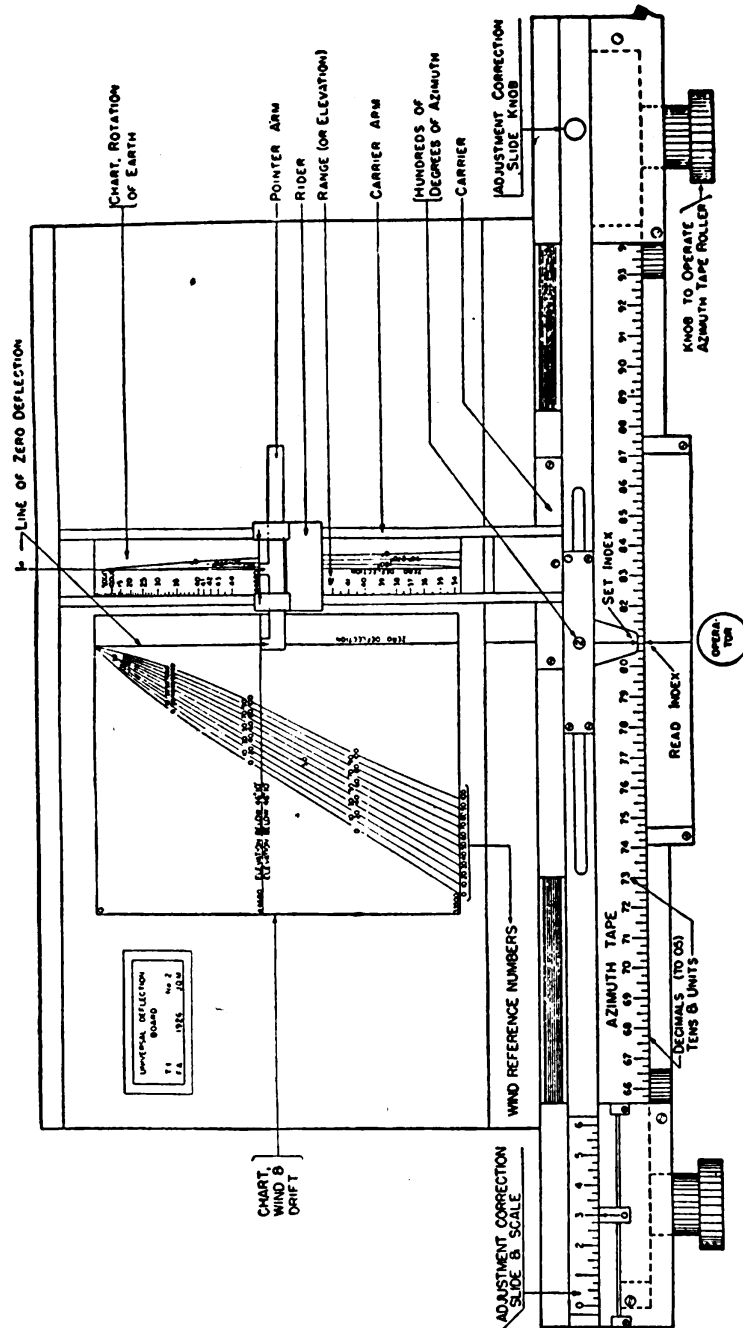

FIGURE 51.—Universal deflection board.
*c. Universal deflection board.*—*Q.* Point out and state the purpose of each of the parts shown in figure 51. *A.* See figure 51.
(1) The plotter having announced the approximate range to the target and whether moving from right to left or left to right, wind as much of the azimuth tape as possible on the roller on the side toward which the target is moving.
(2) Set the pointer arm at the corrected range to the set-forward point.
(3) Set the rider (for the rotational correction) at the curve corresponding to the approximate azimuth of the set-forward point.
(4) The wind-and-drift curve to be used is determined by the deflection wind component obtained from the wind-component indicator. With the adjustment correction scale at zero, move the carrier, with arm, until the wind-and-drift correction pointer is brought to the proper wind-and-drift curve.
(5) Thereafter keep the pointer arm set at the proper elevation, the rider on the proper rotational curve, and the pointer on the proper wind-and-drift curve.
(6) Set the slide to indicate the hundreds of degrees azimuth of the set-forward point.
(7) Move the tape so that the azimuth of the set-forward point called out by the plotter is set opposite the set index.